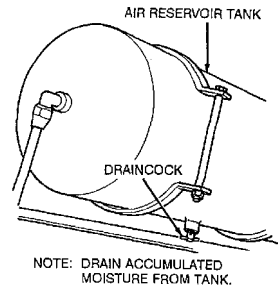

Figure 49. Air system reservoir service.
- c. Service the air reservoir (fig. 49).